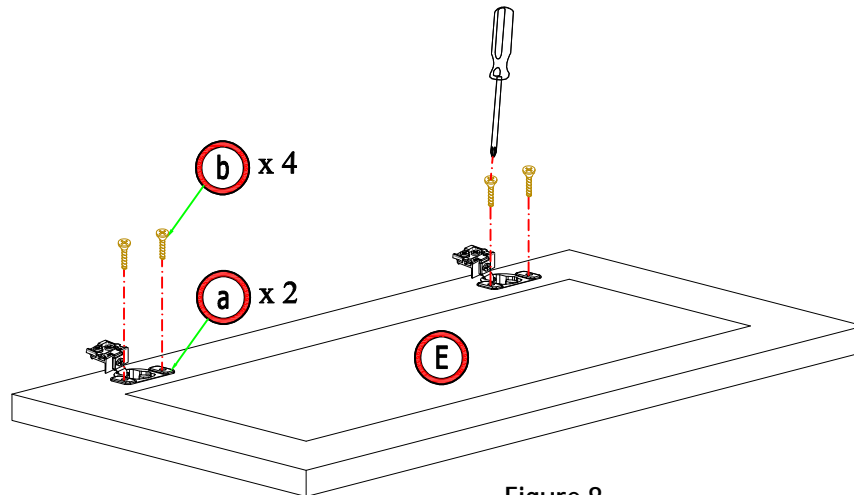

Figure 8
8. Assemble 2 hinges into one doors by screwdriver and 4 screw 7/15" (Figure 8)